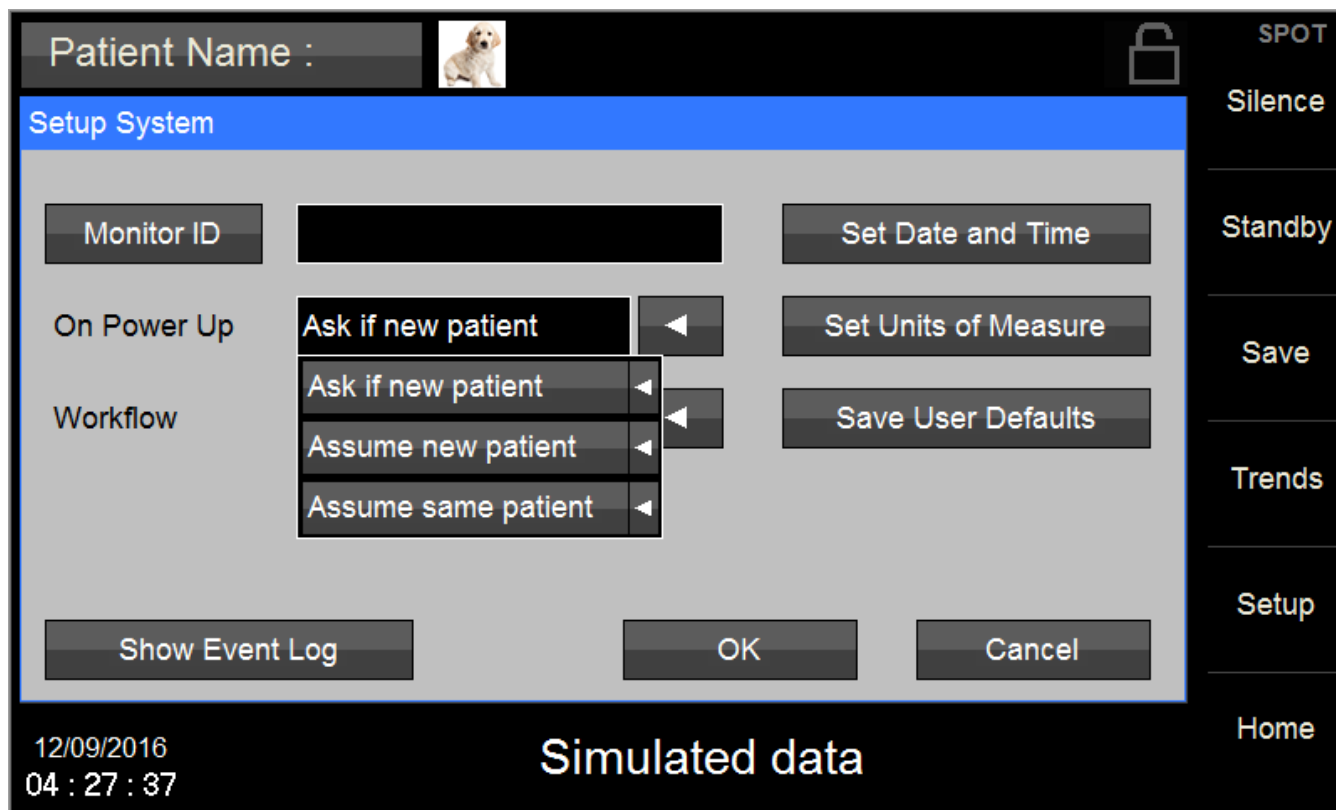

Figure 9: Setup System Menu: On Power Up selection
- 5) Set **On Power up** selection to desired choice (refer to Figure 9)